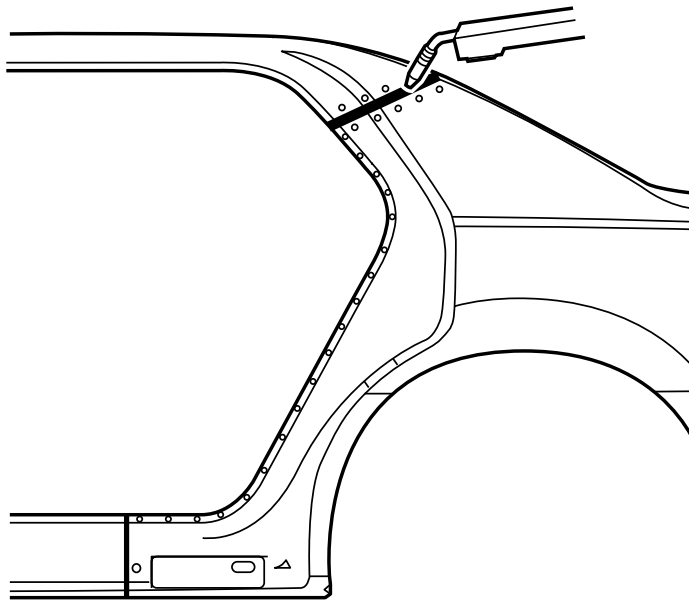

Fig. 1-10 — Outer Rear Pillar Installation
8. Stitch weld along entire sectioning joint. Make 25 mm (1 in) welds along the seam with 25 mm (1 in) gaps between them (Fig. 1-10).